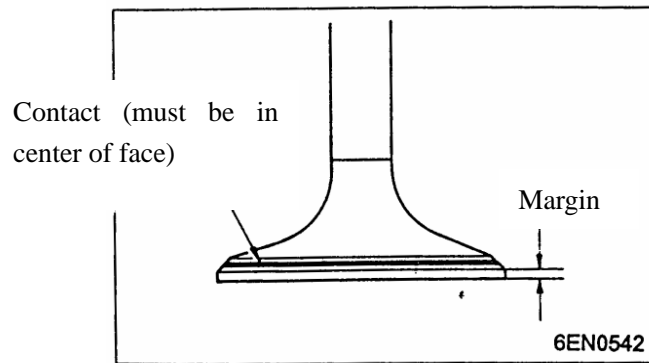

Fig.4-79
(1) Check the valve face for correct contact. If contact is uneven or incomplete, reface the valve seat.
(2) If the margin is less than specified, replace the valve, see Fig.4-79.